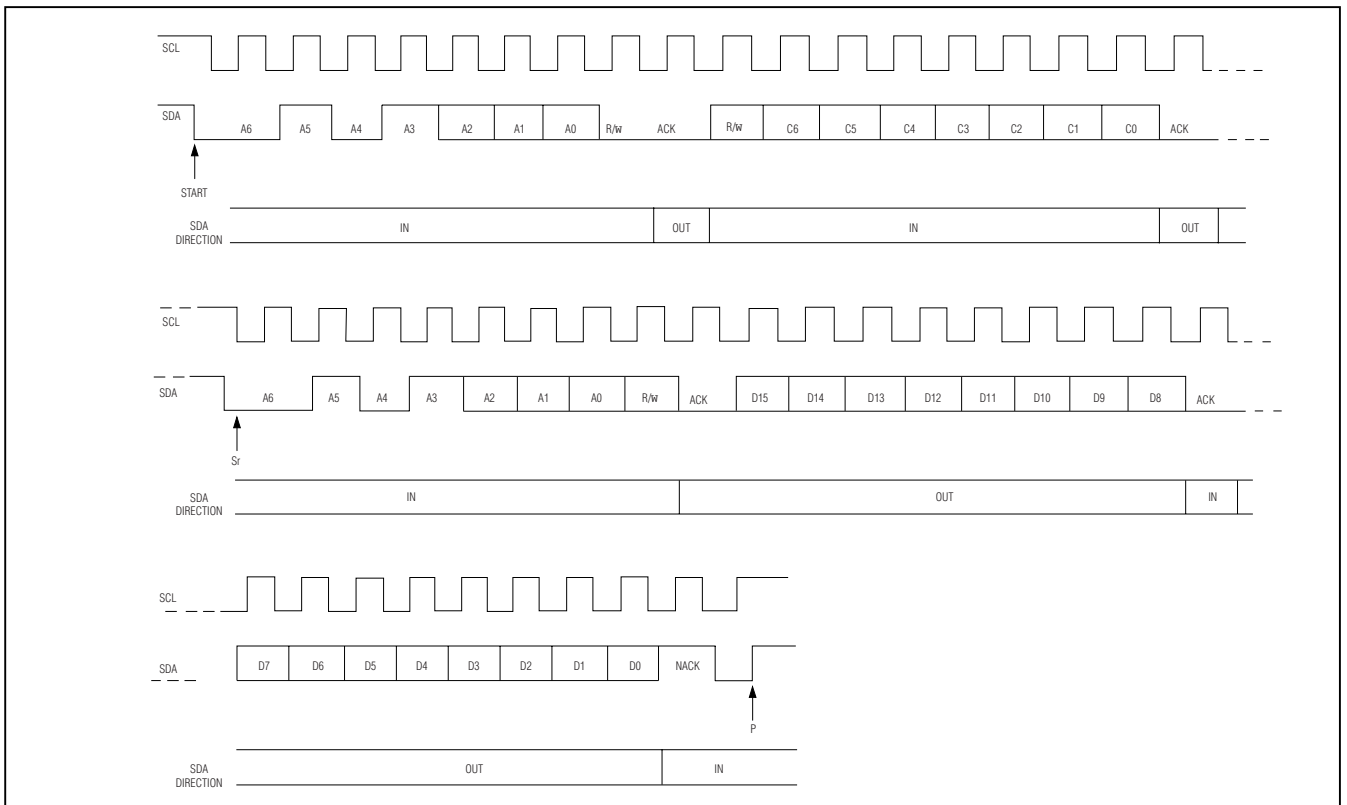

Figure 18. MAX11014/MAX11015 I²C Read Timing
Begin a read cycle by issuing a START condition followed by writing a 7-bit address (Figure 18) and a read bit ($R/\bar{W} = 1$). After writing the 8th bit, the MAX11014/MAX11015 (the slave) issue an acknowledge signal by pulling SDA low for one clock cycle.
Begin a default read cycle by writing the slave address byte followed by an acknowledge bit. Read out the next 2 data bytes, with acknowledge bits from the master to the slave following each byte. Continue to acknowledge the data by sending acknowledge (A) signals. After reading the final byte, the master should send a not-acknowledge (N) followed by a stop signal. The default read cycle reads out the data from the register (located in Table 2) of the previously assigned command byte. See Figure 18. This default read feature is useful for 2-wire reads to maximize the data throughput without having the overhead of setting the slave address and command byte each time.